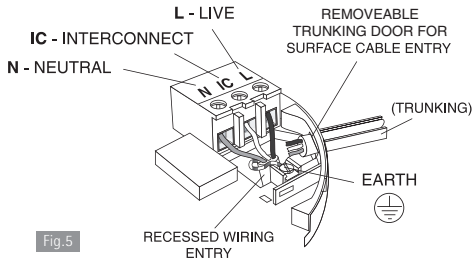

Fig.5
IC: Interconnect - see figures 5 and 6 and further information in Section 2.6.
4. If the mains wires are recessed, bring the wires through the rear hole in the mounting plate as shown in Figure 5.
- (a) position the mounting plate so the cable trunking is as shown in Figure 5.